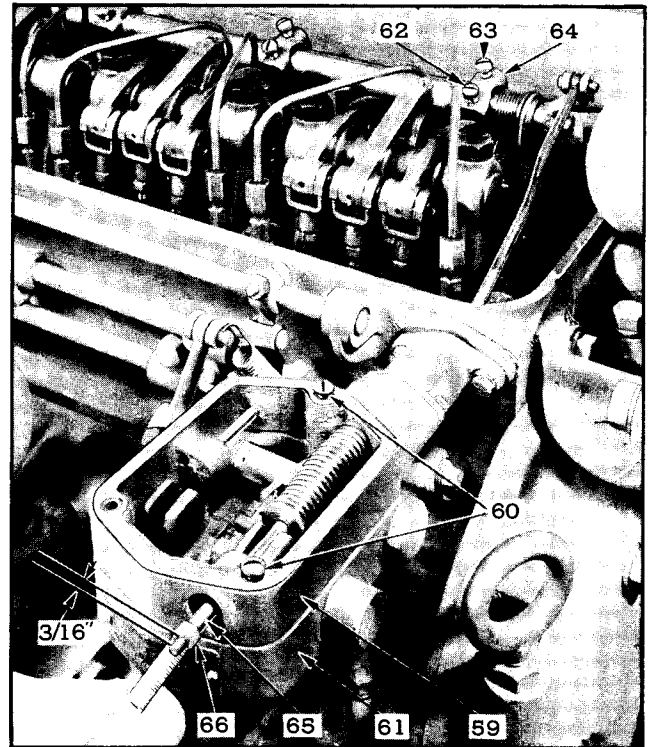

Fig. 12—Adjusting Fuel Rod.
1. Remove governor cover and replace two screws (60) through subcap (59) and into governor housing (61) to hold subcap in position, as shown in Fig. 12.